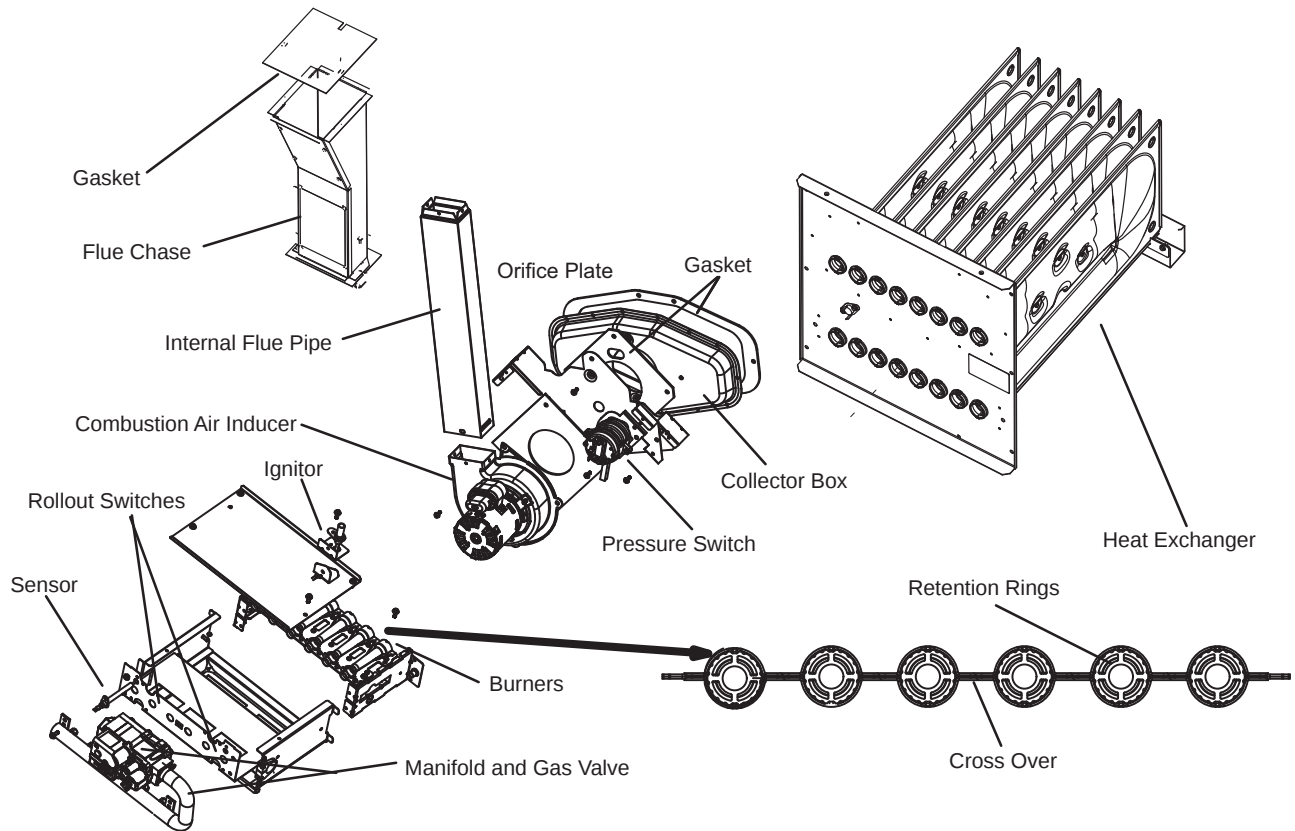

Figure 21. Burner, CAI Assembly & Heat Exchanger Removal
- 11 - To clean burners, run a vacuum cleaner with a soft brush attachment over the face of burners. Visually inspect inside the burners and crossovers for any blockage caused by foreign matter. Remove any blockage. **Figure 21** shows burner detail.